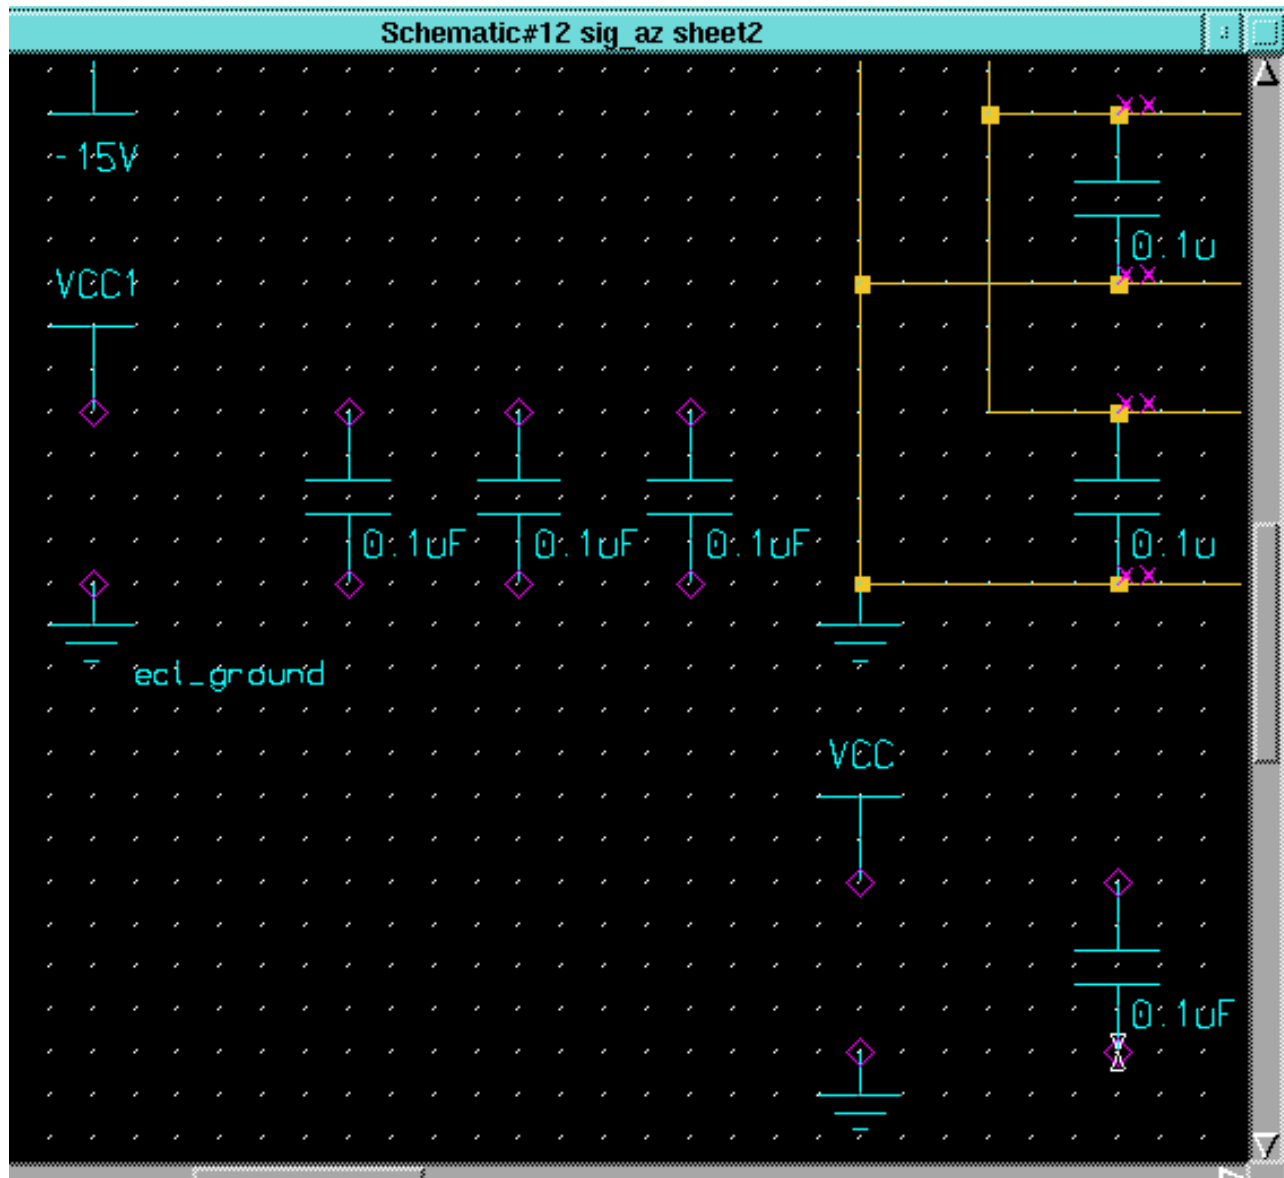

Figure 2-25. Placing Symbols
Figure 2-25 shows symbol placement for the next steps.
22. Move the cursor into the Edit window, drag the ghost image 11 grid points below the original ground symbol, and click the Select mouse button to place the symbol, as shown in Figure 2-25.
23. Place the **vcc**, **vcc1**, and **ground_ecl** symbols from **gen_lib** at the locations shown in Figure 2-25, using the same method as for previous symbols.
26. **OK** the dialog box, and place the symbol six grid points to the right of the **vcc1** and **ground_ecl** symbols, as shown in Figure 2-25.